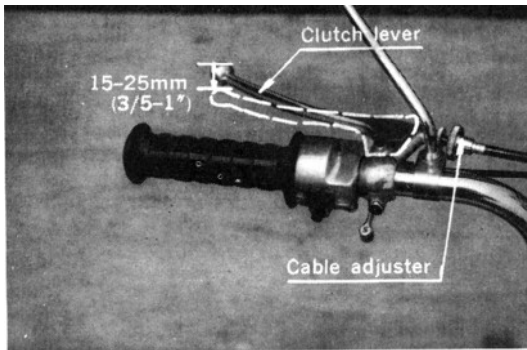

Fig. 51 Clutch cable adjuster
1. Adjustment is easily carried out with the cable adjuster and cable adjust screw. (Fig. 51, 52)